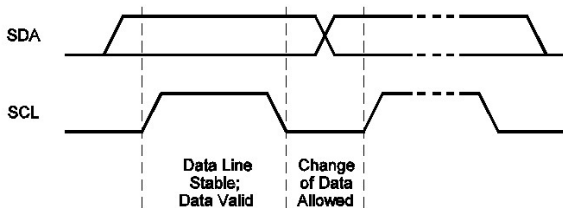

Figure 4: Bit Transfer on the I2C Bus
One clock pulse is generated for each data bit transferred. The data on the SDA line must be stable during the high period of the clock. The high or low state of the data line can only change when the clock signal on the SCL line is low (see Figure 4).
Start and stop conditions are signaled by the master device, which signifies the beginning and the end of the I2C transfer. A start condition (S) is defined as the SDA signal transitioning from high to low while the SCL is high. A stop condition (P) is defined as the SDA signal transitioning from low to high while the SCL is high (see Figure 4).